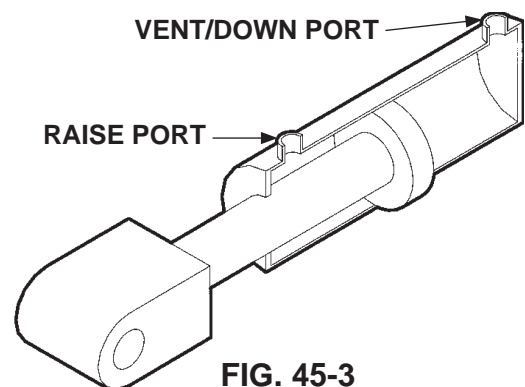

FIG. 45-3
3. Check the hydraulic cylinder. With the platform on the ground, remove the hydraulic line from the vent/down port of the cylinder (**FIG. 45-3**). Raise the platform even with the bed. Allow pump motor to run two seconds more while you watch for hydraulic fluid at the vent/down port. A few drops of hydraulic fluid escaping the vent/down port is normal; however, if it streams from the vent/down port, piston seals are worn. Replace seals.